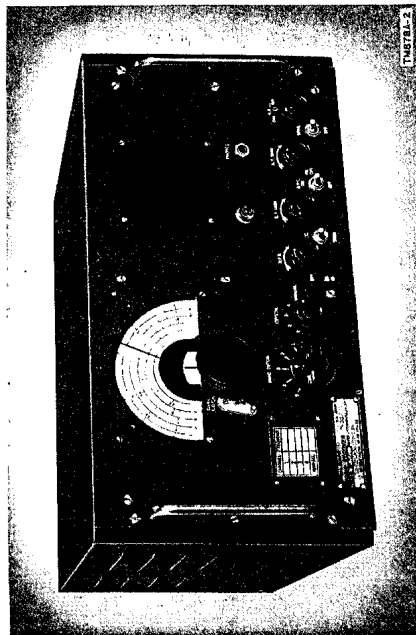

Figure 2. Radio Receiver R-96A/SR, front view.
a. Radio Receiver R-96A/SR is an 11-tube superheterodyne receiver designed to receive a-m and c-w signals in the frequency ranges of 135 to 510 kc and 1 to 12 mc to cover the operating frequencies of the standard marine bands, as well as many land-based and airborne transmitters. This is necessary to facilitate complete shipboard reception for all types of military operations. Four crystal-controlled channels also are provided in the 1,700 to 8,700 kc frequency range. A speaker is contained within the set and a phone jack is provided on the front panel for headset operation. An aml (automatic noise limiter) circuit assists in reception during pulse type noise interference. All operating controls are located on the front panel (fig. 2). The receiver is provided with a cabinet suitable for desk or shelf mounting. The cabinet is designed to support the weight of Radio Transmitter T-83/SR when it is used in conjunction with the receiver. If required for installation, the receiver may be removed from the cabinet and
b. The receiver can be removed from the dust cover by removing six screw-head bolts. The bolts are located at the ends of the front panel in line with the two handles (fig. 2). After the bolts are unscrewed, grasp the handles and pull the chassis outward from the dust cover.
17. Front Panel Controls (figs. 2 and 9)